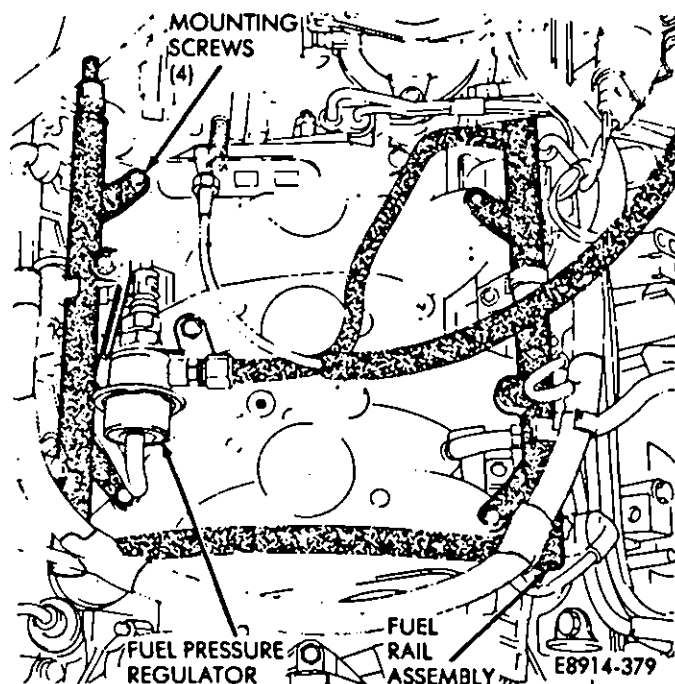

Fig. 18—Fuel Rail and Regulator Mounting Screws
(9) Remove fuel rail mounting screws. Remove the fuel pressure regulator mounting screws (Fig. 18).
(10) Disconnect vacuum hose from fuel pressure regulator.
(11) Pull the fuel rails, regulator and injector assembly up until the injectors are out of the openings in the intake manifold.
(12) Pull the assembly out from under the throttle cable.
(1) Lubricate the injector O-rings with a drop of clean engine oil.
(2) Position the assembly so that the injectors are above the openings in the intake manifold.
(3) Push the injectors into the openings. Be sure not to damage the injector O-rings.
(4) Install fuel rail and regulator hold down bolts (Fig. 18).
(5) Connect the acceleration and cruise control cables to the throttle body.
(6) Connect the fuel injector electrical connectors in the correct order.
(7) Refer to Fuel Tubes and Quick-Connect Fittings in this group for quick-connect fitting connection procedures and connect the black fuel supply tube to the fuel rail and the grey fuel return tube to the fuel pressure regulator accordingly.